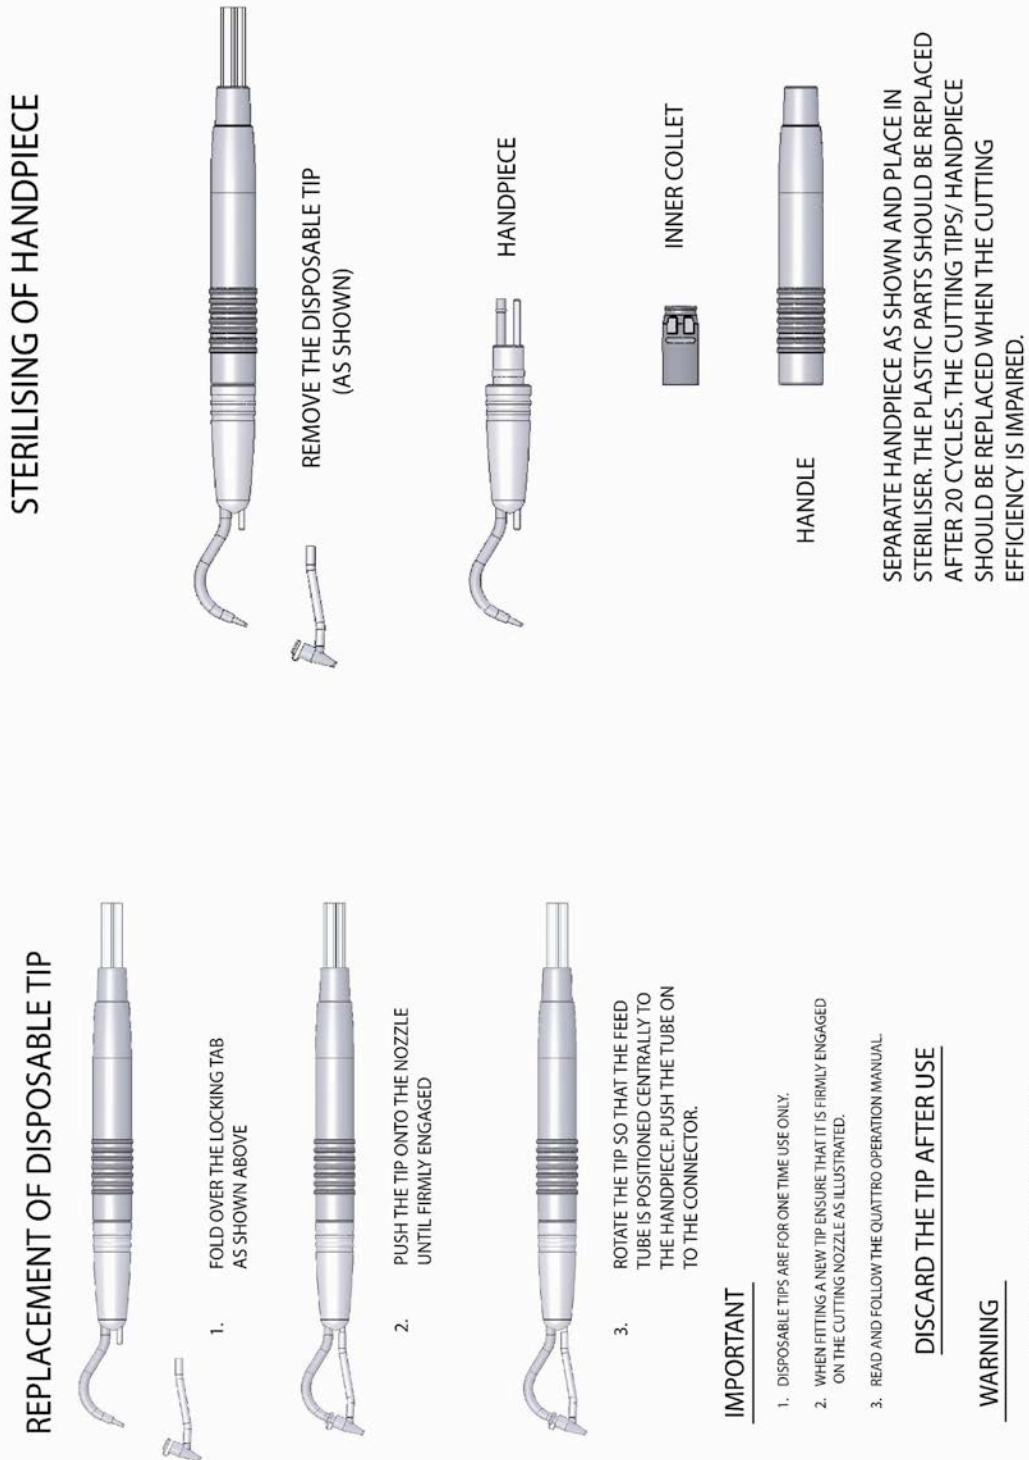

FIGURE 4
8. Assemble a replaceable feed line and tip, (item 30), to the nozzle ensuring that it is firmly pressed on and square, (see Figure 4). Push the tube into the Handpiece connector underneath the nozzle.
9. Check the Dosing Chamber Lids, (item 14 & 16), are correctly fitted. See page 21.
10. **Wear safety goggles.** Turn on the air supply to the machine, (item 1), by selecting the appropriate gas setting, (I = Air; II = Secondary gas – not recommended at this time).